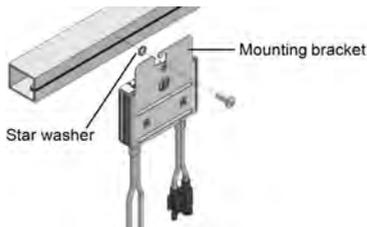

Figure 3: Power optimizer installation and grounding using a star washer
- Determine the power optimizer mounting location and use the power optimizer mounting brackets to attach the power optimizer to the support structure (See *Figure 3*). It is recommended to mount the power optimizer in a location protected from direct sunlight. For frame-mounted power optimizers follow the instructions supplied with the optimizers, or refer to https://www.solaredge.com/sites/default/files/installing_frame_mounted_power_optimizers.pdf.